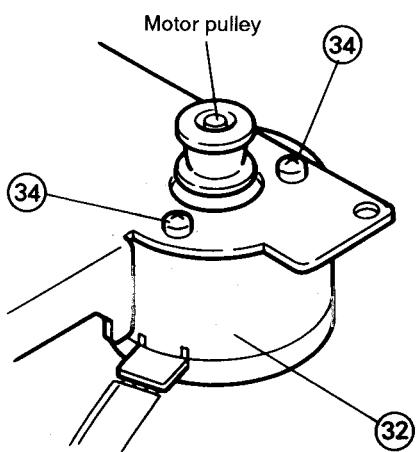

Fig. 7-27
(Refer to Figs. 7-27~7-31)
1. Turn over the cassette mechanism ass'y (Refer to Fig. 7-27).
3. While spreading the two pawls (B and C) retaining the FM bracket ass'y in the arrow direction, remove the ass'y (Refer to Fig. 7-27).